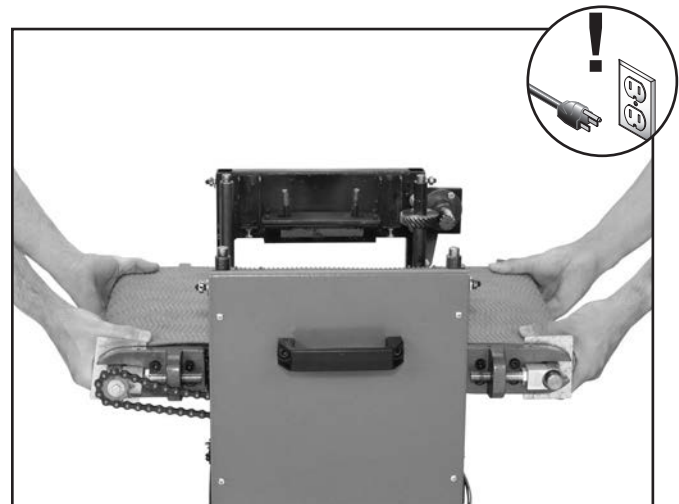

Figure 49. Example of lifting the table off of the drum sander cabinet with two people.
17. With the help of an assistant, carefully lift the table off of the drum sander cabinet, as shown in **Figure 49**.